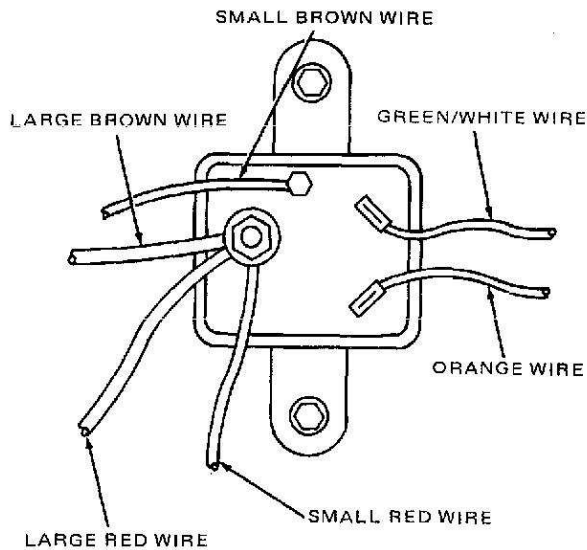

Figure 2-44.1 Starter Relay.
(1) Disconnect negative cable from the battery.
(2) Tag and disconnect all wires from the starter relay (figure 2-44.1).
(3) Remove two screws and washers holding starter relay to wheelwell.
(1) Secure starter relay to wheelwell using two screws and washers.
(2) Connect wires to starter relay (figure 2-44.1).
(3) Connect negative cable to battery. Make sure that battery and terminal connection is clean and tight.